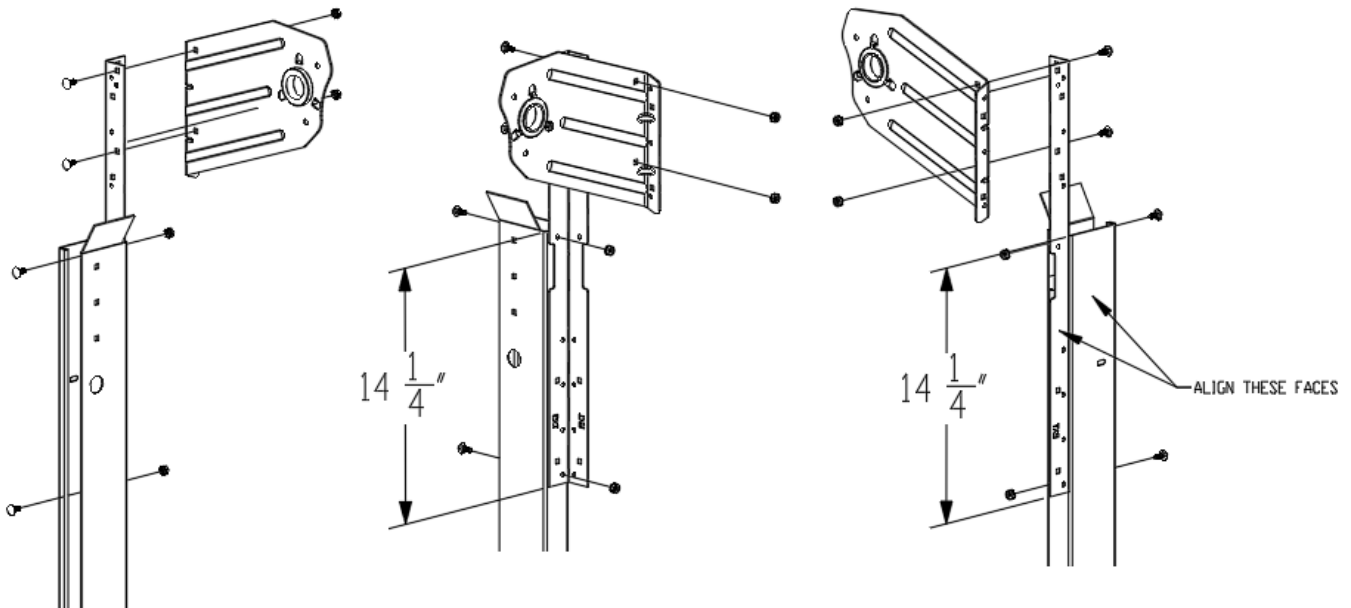

figure 5: Bolt-On Bracket
- ✦ Attach angle to guide using two (2) each 1/4-20 x 5/8" carriage bolts and 1/4-20 keps nuts. See Figure 5.
- ✦ Attach bracket to guide using two (2) each 1/4-20 x 5/8" carriage bolts and 1/4-20 keps nuts. See Figure 5.